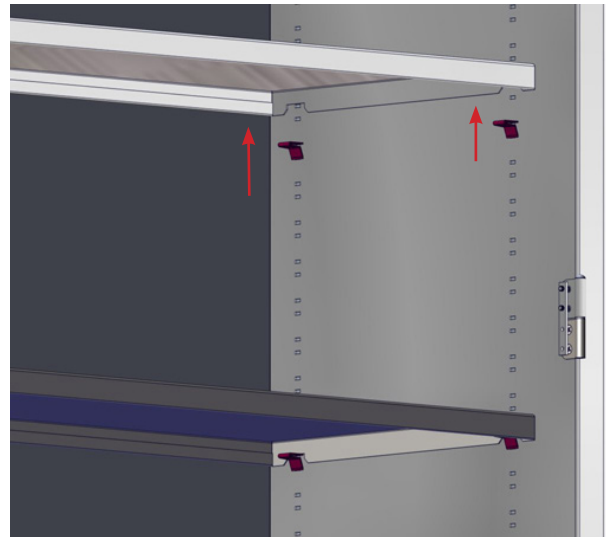

Fig. 23: Remove Shelf
2. Remove the shelf and determine its new position (Fig. 23).